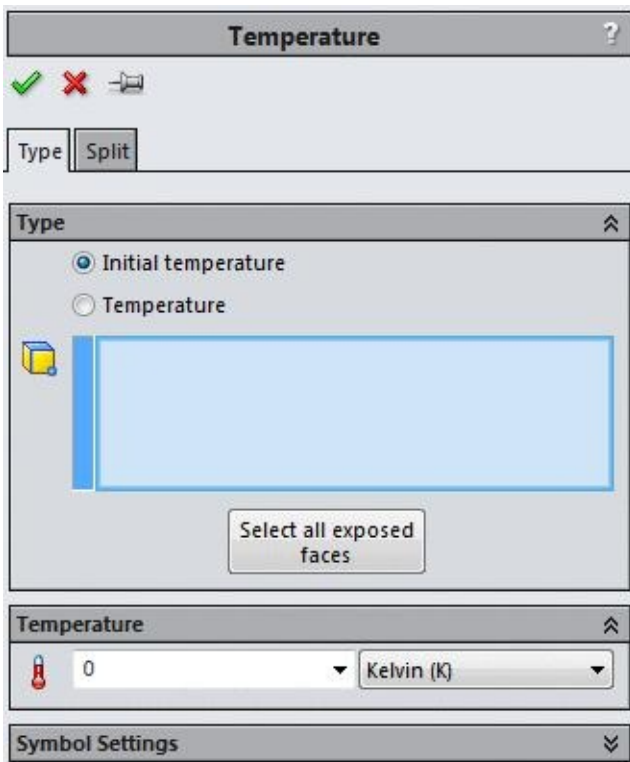

Figure-3. Temperature PropertyManager for transient study
- If you want to change the unit of temperature from the default Kelvin unit, then click on the **Kelvin (K)** option next to **Temperature** edit box. The list of options related to temperature units will be displayed.
- If you are performing the transient thermal study, then the **Initial temperature** radio button will be active; refer to Figure-3.